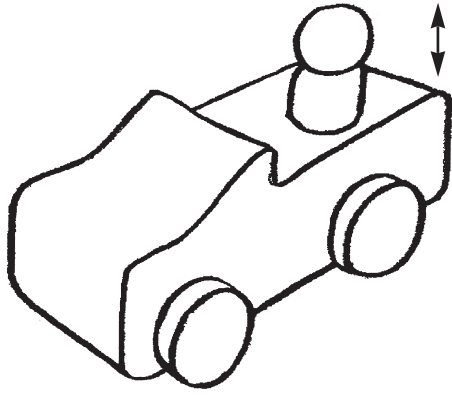

Figure 12
- (b) (i) In the space below design a cam that could be used to make the driver's head and body in **Figure 12** move up and down at the same speed as the toy is pulled along. You may use whatever drawing format you wish.